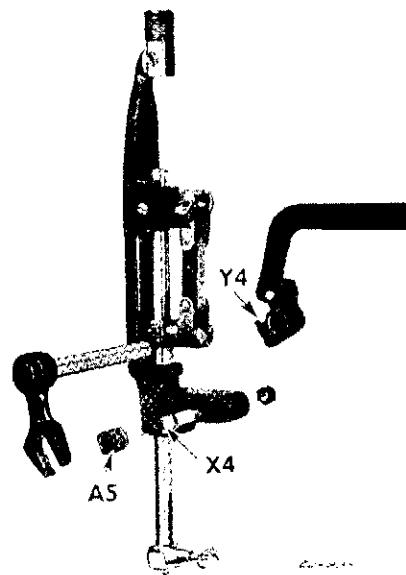

Fig. 68. Exploded View of Needle Vibrator Fork
3. Loosen clamp screw **Y4** and withdraw needle vibrator lever fork completely from slide bushing shown in exploded view in Fig. 68.
5. Press holder toward hand wheel and insert eccentric stud **X4**, Fig. 68 into needle bar holder. Then place slide bushing on eccentric stud, setting shoulder of flat sides toward needle bar holder.
6. Simultaneously place fork over the two flat sides of bushing **A5**, Fig. 68 and insert lever end of fork into clamp at **Y4**, Fig. 68. Add shim of .003" between pitman crank and fork bushing. Then tighten screw **Y4** and remove shim.